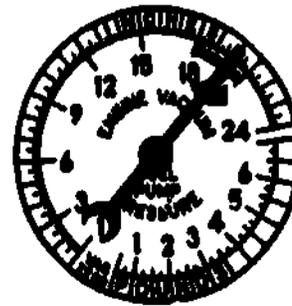

Fig 1-3, Normal vacuum reading
a. **Vacuum test.** This test is made by connecting the gage to the intake between the carburetor and the engine. The connection may be at the base of the carburetor or at a plug near the center of the intake manifold. Some engines are not equipped to be tested with the vacuum gage; there is no place to connect the gage. After the gage is connected and the engine is operating at normal operating temperature, note the inches of vacuum on the gage. A steady needle that is between 18 and 21 inches vacuum is normal (fig 1-3). A steady reading below 18 inches (fig 1-4) indicates a loss of power due to a condition that is affecting all cylinders. The loss of power may be due to late ignition timing, improper seating of piston rings, or mechanical drag caused by tight bearings. An improperly adjusted carburetor is usually indicated by a reading that slowly drifts from one reading to another (fig 1-5). Should the needle pulsate (jump) steadily from one reading to another (fig 1-6), there is a complete loss of power on one or more cylinders. The power loss may be caused by leaky valves, blown head gasket, restricted intake manifold, or faulty ignition. An occasional pulsation of the needle indicates ignition failure or sticking valves. If the reading starts between 18 and 21 inches vacuum and gradually falls lower when the engine rpm is held steady at approximately 2000 rpm, the cause is probably a restricted exhaust system.